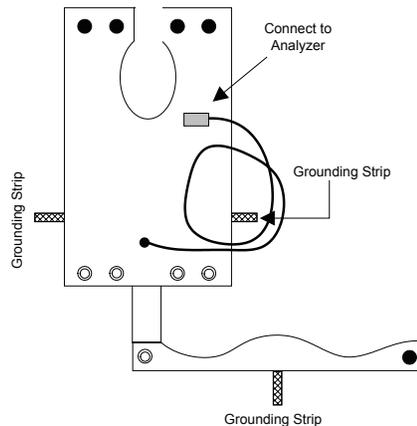

Figure 3-7.
1. There are three grounding strips on the heater jacket (Figure 3-7). Before fitting the jacket to the manifold, you must bend these strips around the edge of the jacket to the inside, so the ground strip contacts the metal manifold surface, to ground it.